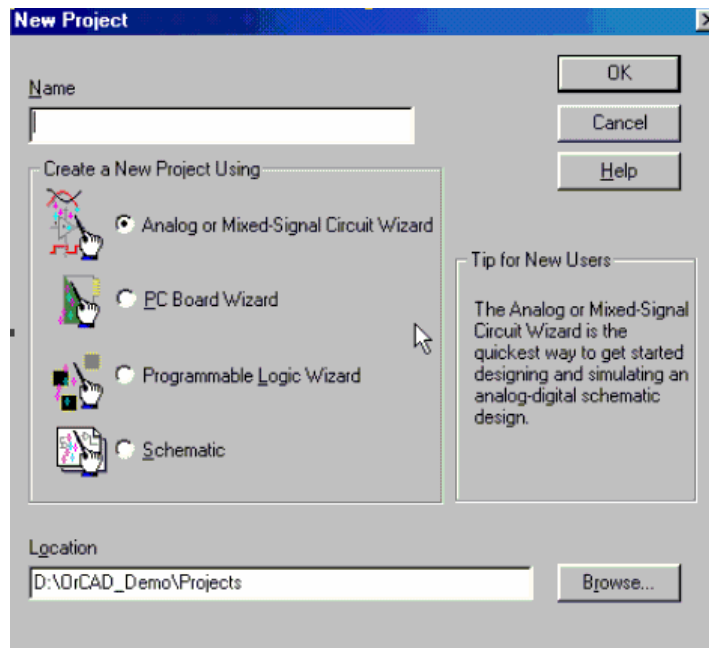

Figure C-3
- *Capture* will open with no current project. Click on the *File* pull-down menu and select *New Project*. You will see a new window (figure C-3) named *New Project*.